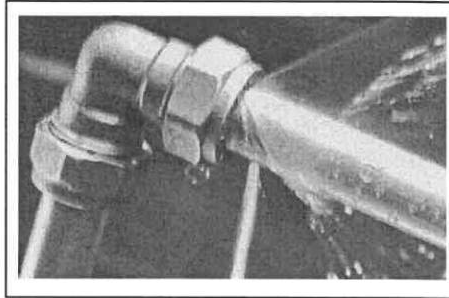

FIGURE 4.4
- 4.4 FIGURE 4.4 below shows a copper pipe joint that has a leak because the compression ring/ferrule is damaged. (1)